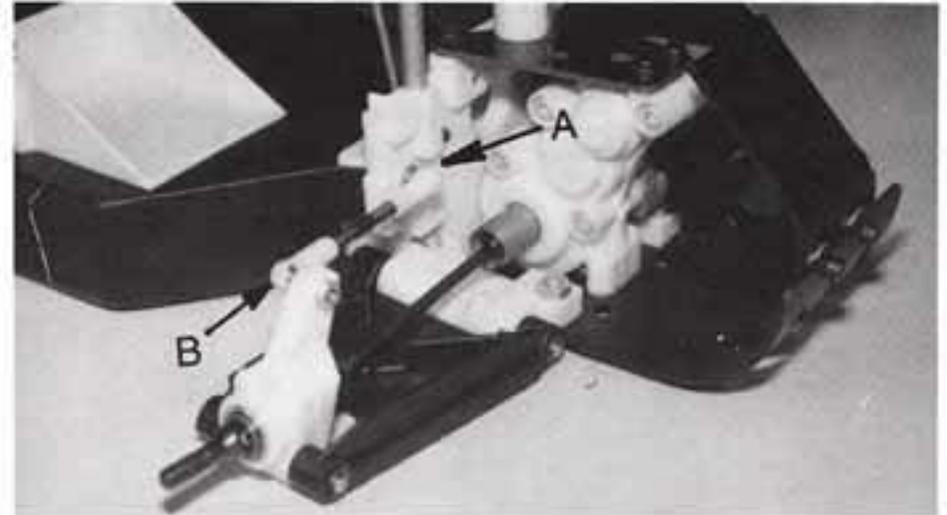

Fig. 104
□ **Fig. 104** Starting with the left hand suspension and turnbuckle, snap one end of the turnbuckle onto ball end location (A) on the rear bulkhead and the other end onto ball end location (B) on the rear hub carrier. When installed, your turnbuckle should look like fig. 104. Now go ahead and repeat the step for the right side turnbuckle.